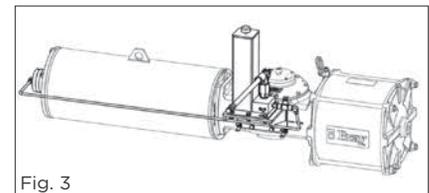

Fig. 3
3. Firmly thread the studs (10) supplied with the override mounting kit, into the thrust base. With the piston rod fully retracted, insert the Hydraulic Cylinder into the Spring Module positioning the air venting plug at the top.
6. Fit a 3-way valve, rated for 150 psi (10.3 bar) working pressure, to the pneumatic module's port (Refer to Fig. 3). Turn the valve to venting position so that the pneumatic cylinder's port is connected to atmosphere.
7. Fit the hydraulic hand pump assembly bracket on the rear accessories mounting pad of the Torque Module with the 4 bolts supplied in the kit. Tube the cylinder port to the pump outlet port, as in Fig. 3. The standard mounting, as shown, is for the actuator in horizontal orientation. Special brackets for other orientations of the actuator can be supplied upon request.